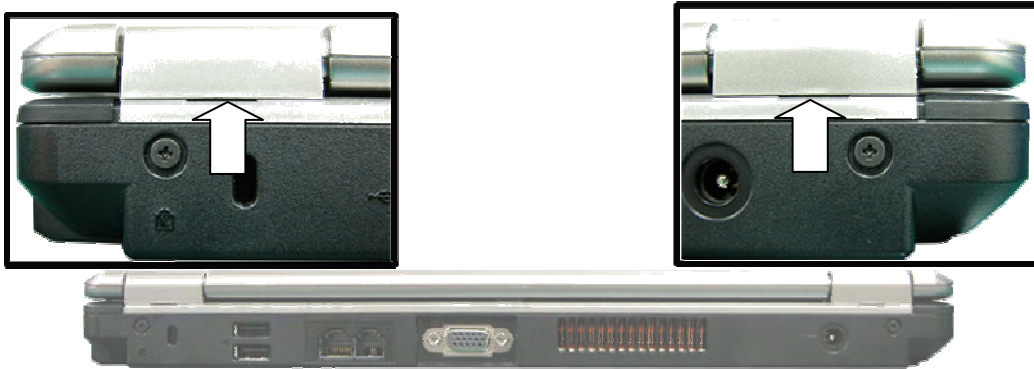

Fig. 6 Releasing the keyboard cover
1. Release the keyboard cover from the rear of the system by pulling it from the gaps on LCD hinge as shown in Fig. 6